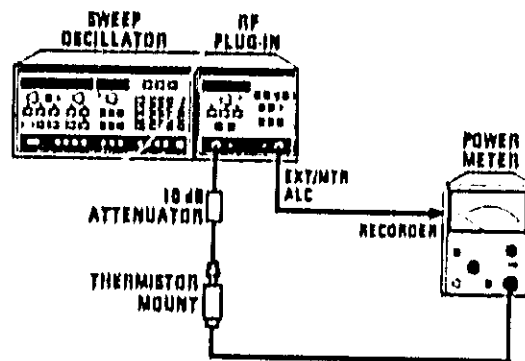

Figure 8-27. Power Meter Leveling Setup
- Attempt to level the power externally using the HP 432A/B/C, 436A, or 438A Power Meter as shown in Figure 8-27. Select MTR leveling, and enter a slow (at least 30 seconds) sweep time. If the RF power is now leveled, the failure is most likely in the detectors or the Detector Selection Switch, A4U6. Refer to the following paragraph. If this does not prove to be the case, the problem may be in the two analog switches U3B and U6A. It may be necessary to perform the ALC adjustments in Section V of this manual.